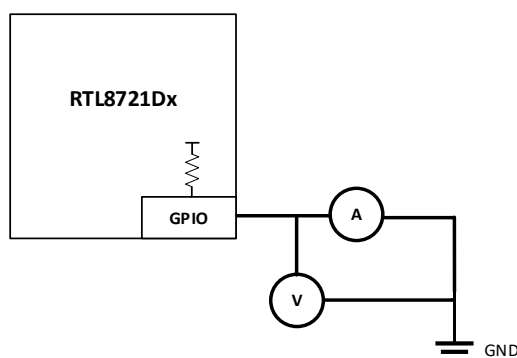

Figure 6-2 I/O Pull up resistor test
- According to Figure 6-2, only connect the ammeter to test. At this time, the current value is I_1 , and the pull-up resistor is $R_{pu}=V_1/I_1$.